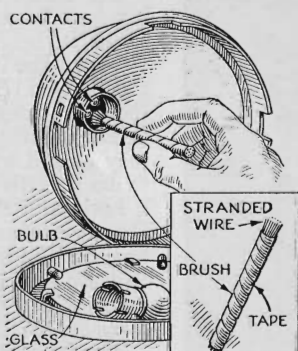

Fig. 4. A bundle of picture wire, taped together, forms a brush to clean lamp contacts
**C**LEANING contacts in lamp sockets is difficult. A tool that does the work easily is shown in Fig. 4. To make it, take several pieces of stiff picture wire and lay them side by side in a bundle. Tape tightly, leaving about 3/16 of an inch of wire exposed at one end.